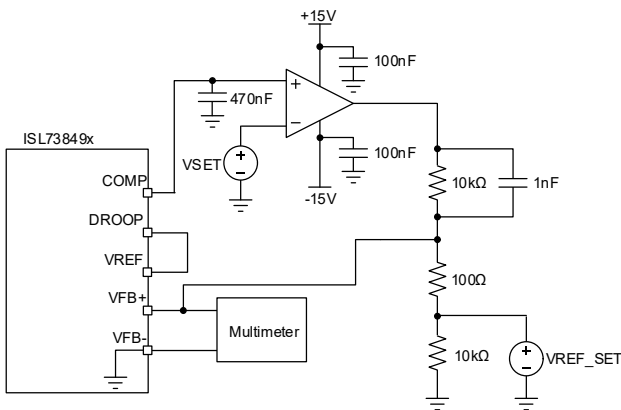

Figure 7. Closed-Loop Circuit
2. This test is conducted in a closed loop circuit (as shown in Figure 7) and includes the error amplifier offset.